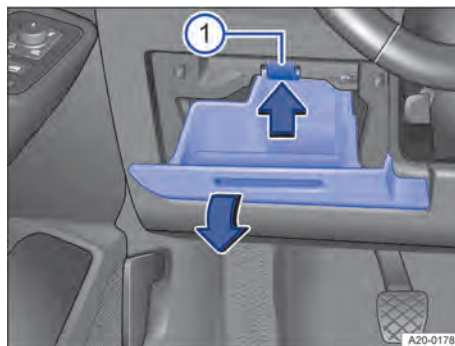

Fig. 191 Fuse box cover in the dash panel: left-hand drive vehicle, on the left-hand side of the steering wheel.
1. Open the storage compartment and empty it if necessary → Fig. 191.
2. Push the retaining lug upwards in the direction of the arrow and at the same time open the stowage compartment further and remove in the direction of the arrow until you can access the fuse carrier → Fig. 191 ⓘ.